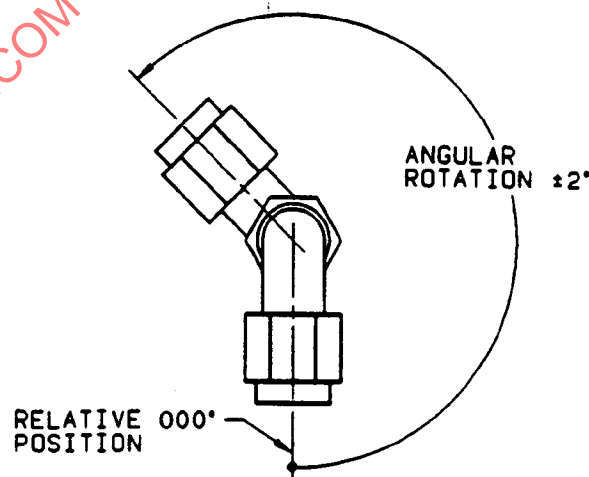

FIGURE 2 - FITTING ORIENTATION
- /19/ THE FITTING'S ORIENTATION DASH NUMBER IS A THREE DIGIT NUMBER DEFINING THE RELATIVE POSITION OF THE END FITTINGS IN 1° INCREMENTS (EXAMPLE: D90 = 90°). FITTING ORIENTATION SHALL BE MEASURED COUNTERCLOCKWISE FROM THE NEAREST END FITTING WHICH SHALL BE IN THE RELATIVE 000° POSITION (SEE FIGURE 2). WHEN END FITTINGS ARE POINTED IN THE SAME DIRECTION, THIS DASH NUMBER SHALL BE 000.